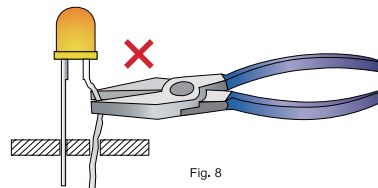

Fig. 8
- During lead forming, use tools or jigs to hold the leads securely so that the bending force will not be transmitted to the LED lens and its internal structures. Do not perform lead forming once the component has been mounted onto the PCB. (Fig. 8)